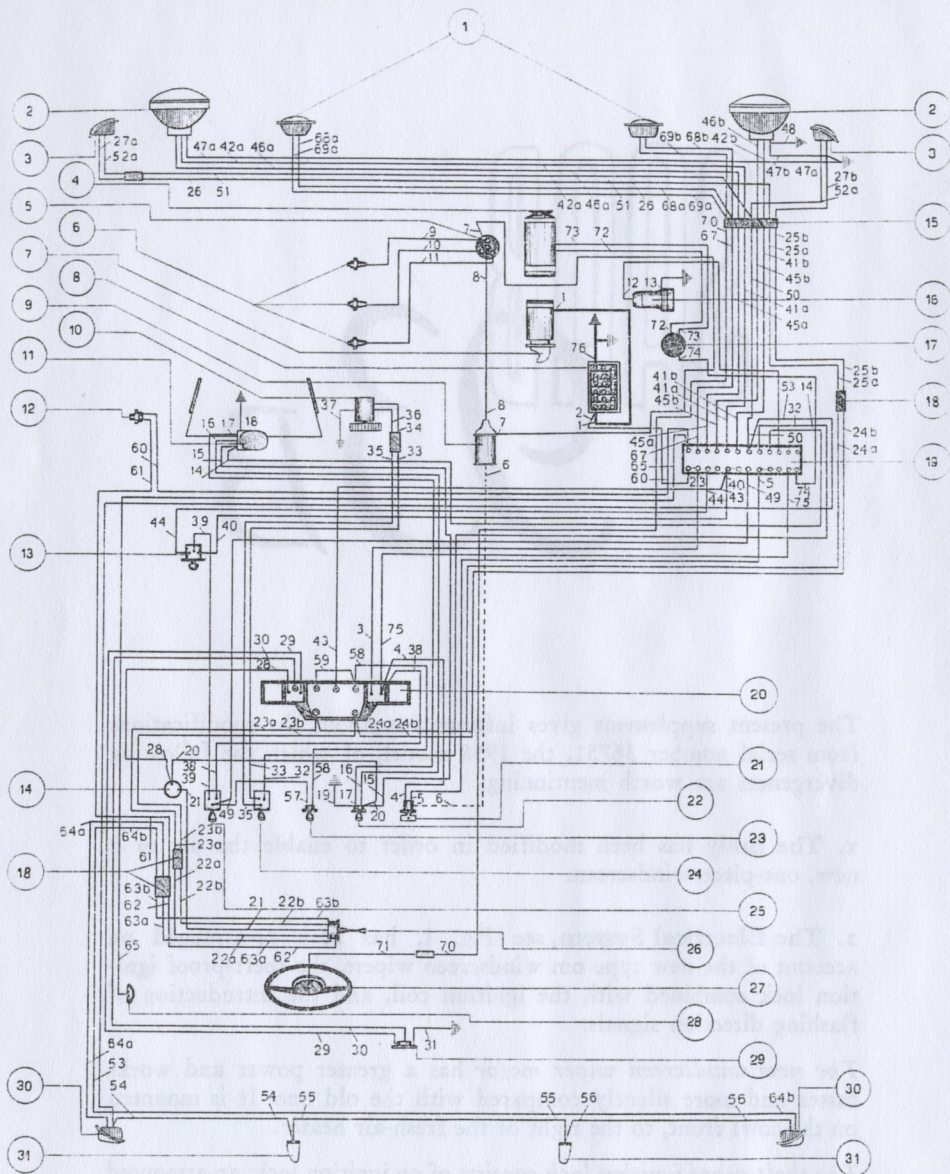

Fig. 1. Wiring Diagram.
2. **The Electrical System**, see Fig. 1, has been re-arranged on account of the new type om windscreen wipers, the theft-proof ignition lock combined with the ignition coil, and the introduction of flashing direction signals.
Colours of cable insulations as per Fig. 1.
Explanations to the encircled numbers of Fig. 1.